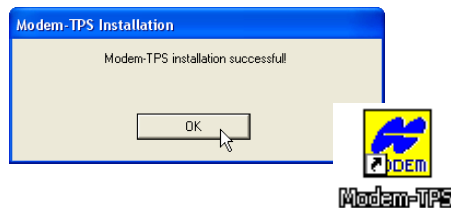

Figure 2-18. Installation Complete and Shortcut
4. If desired, create a shortcut on the computer's desktop for quick access to Modem-TPS (Figure 2-18).